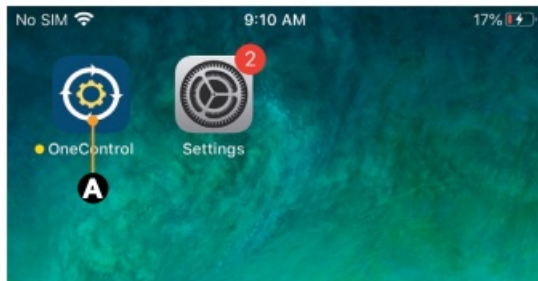
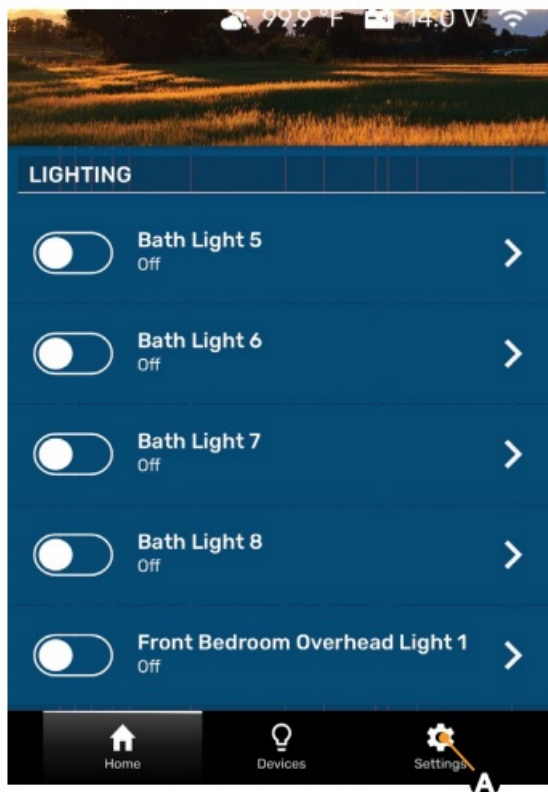

Fig.4
Fig.5
1. If using the LCI OneControl app (**Fig.4**), for either an iOS or Android smart phone (Fig.5), do as follows: